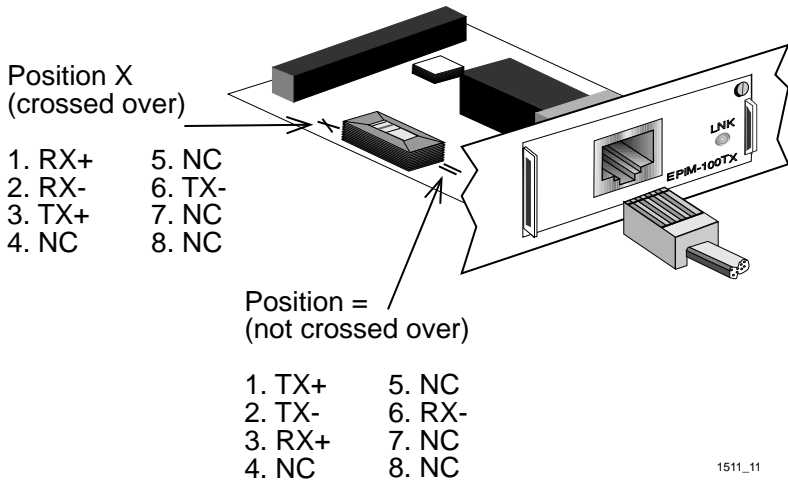

Figure 5-2 EPIM-100TX Crossover Switch
The EPIM-100TX is often used to provide a connection between the SEH and a bridge, router, or switch. Normally, in this configuration, a “straight-through” cable is used and the EPIM crossover switch, shown in Figure 5-2, is set to “not crossed over.”
The EPIM-100TX is also used to provide another RJ45 port to connect to a UTP segment. Before connecting a segment to the EPIM-100TX, check each end of the segment to determine if the wires have been crossed over for the proper connection. If the wires do not cross over, use the switch on the EPIM-100TX to internally cross over the RJ45 port. Refer to Figure 5-2 to set the EPIM-100TX crossover switch.
1. Connect the twisted pair segment to the module by plugging the RJ45 connector on the twisted pair segment into the RJ45 port on the module. See Figure 5-2.